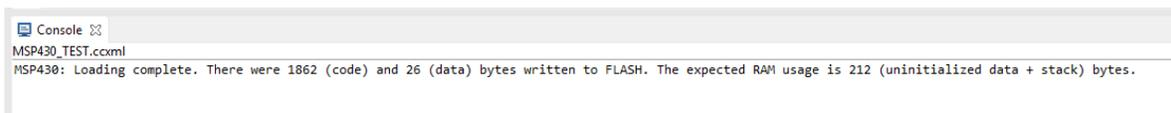

Figure 11. Load Program Complete
- After a short delay, the appProgram.out file is loaded onto the MSP430G2553 (see Figure 11). An error message may display saying that the source was not found. Receiving this message is OK, as long as the binary was loaded.